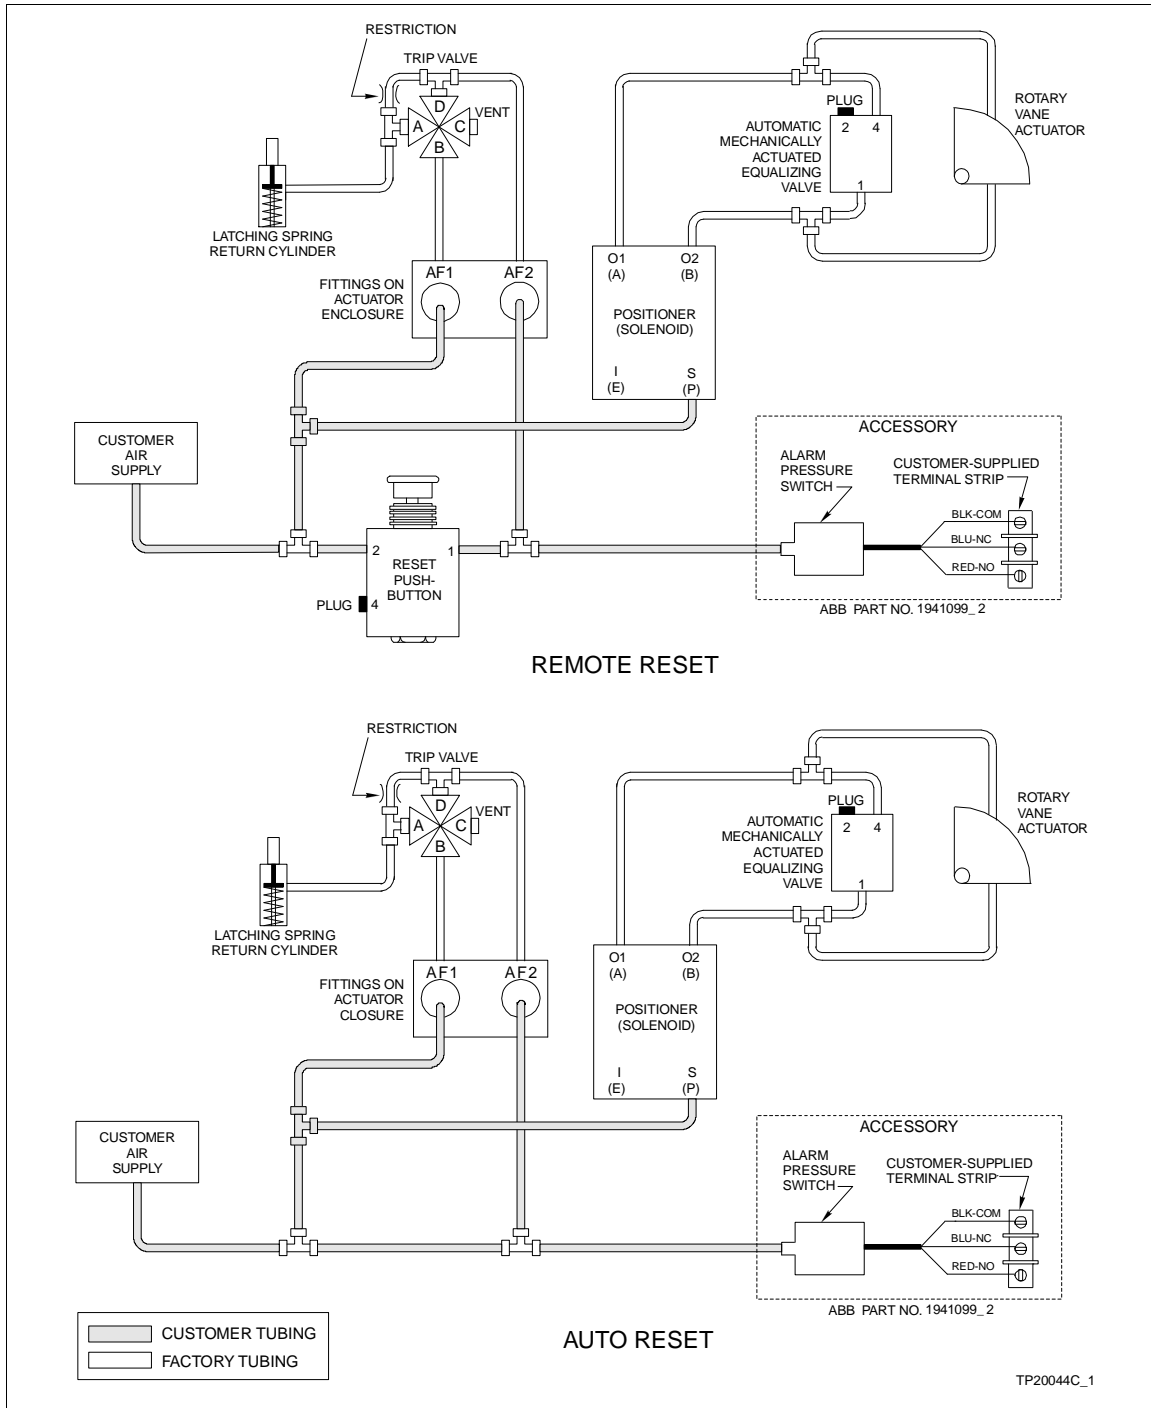

Figure 3-16. Tubing Schematic for Type UP2 Actuator with Air Failure Lock
3. Wire the switch to a terminal block or directly to the alarm as shown in Figure 3-16.